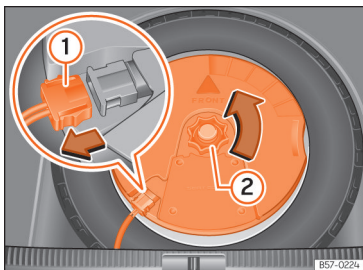

Fig. 237 In the boot: remove the subwoofer.
- Disconnect the subwoofer's speaker cable >>> Fig. 237 ①.
- Turn the securing wheel anti-clockwise >>> Fig. 237 ②.